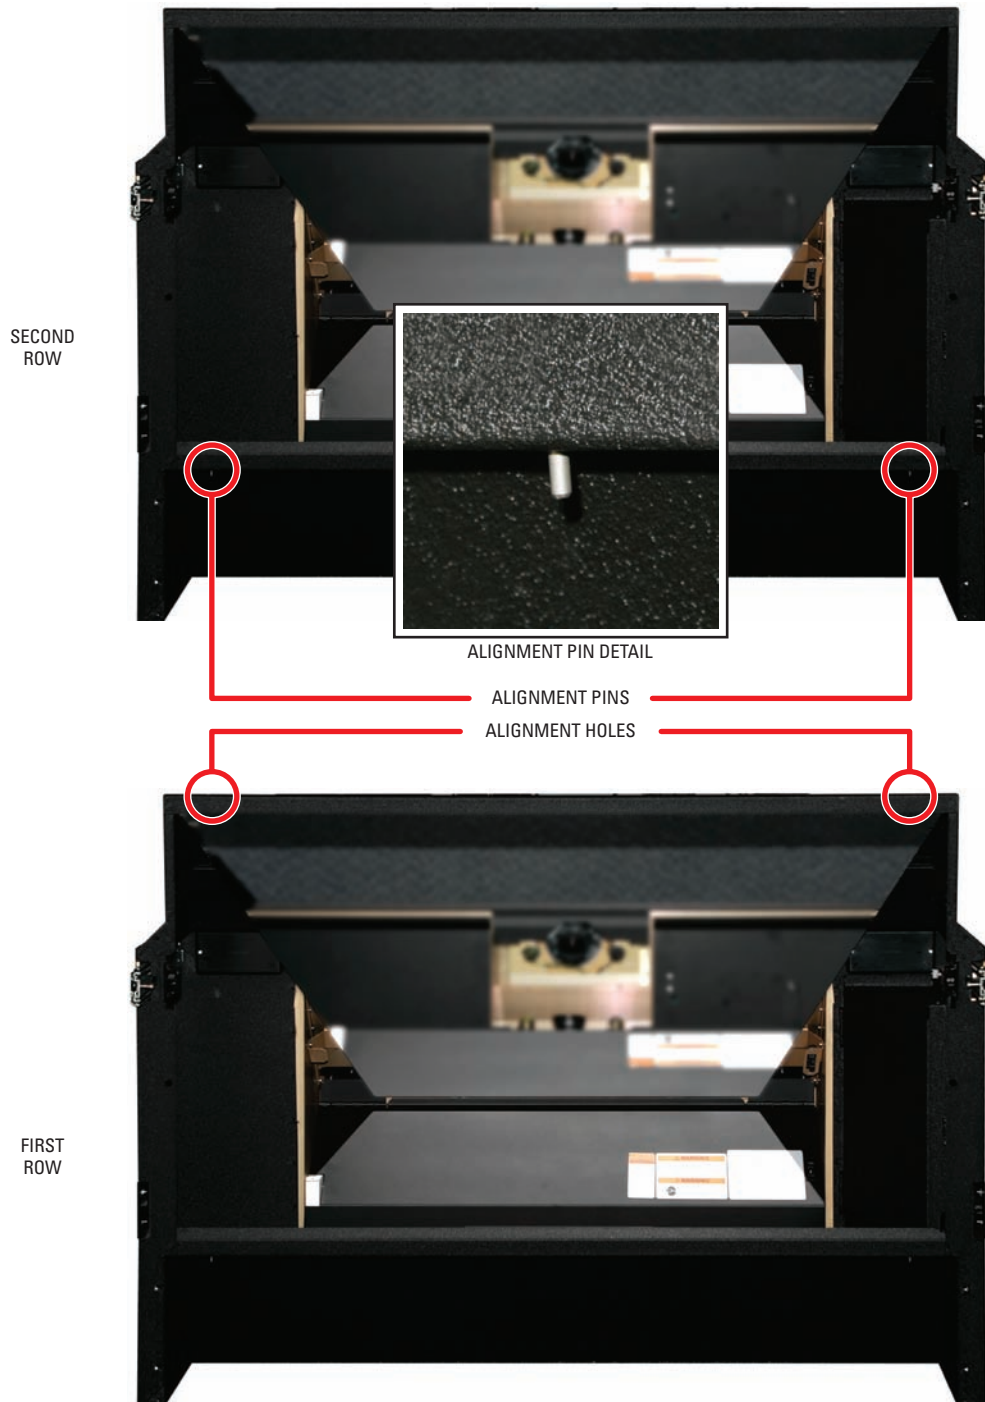

Figure 3. Alignment Pin Locations (Front View)
1. Stack another row of PMCD750 units on the first row. As you stack, be careful inserting the alignment pins on the second row chassis into the alignment holes on the lower unit. Refer to Figure 3.